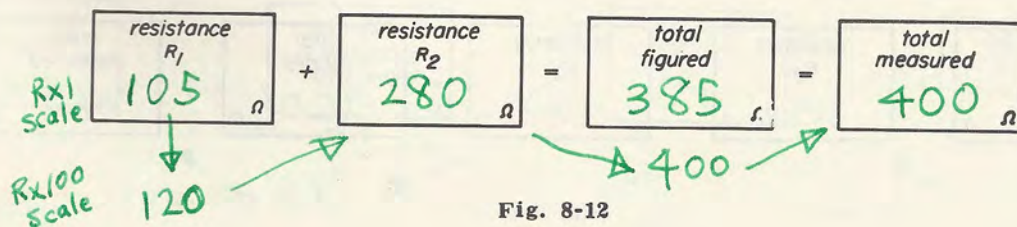

Fig. 8-12
Step 2. Measure, and record in the first box of Fig. 8-12, the resistance of R_1 .
Step 3. Measure, and record in the second box of Fig. 8-12, the resistance of R_2 .
Step 4. Add the resistances of R_1 and R_2 together and put the answer in the third box of Fig. 8-12.
Step 5. With the ohmmeter, measure the resistance of R_1 and R_2 in series by placing one prod on each of the free ends of resistor R_1 and resistor R_2 . Record this value in the fourth box of Fig. 8-12. If this has been done correctly, the value recorded in the third box should equal the value recorded in the fourth box.